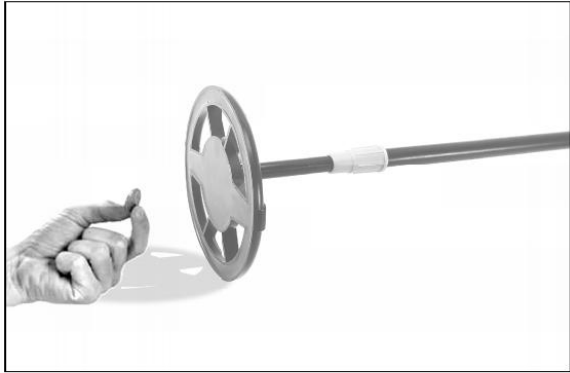
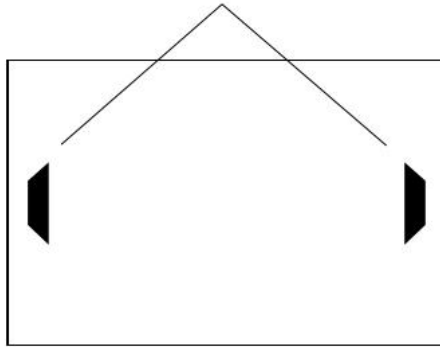
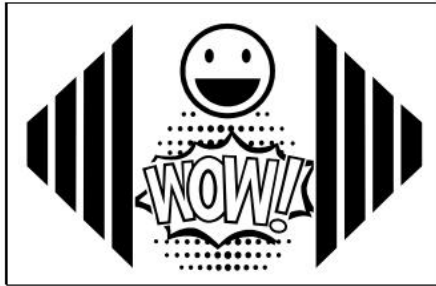

Figure 6
Figure 7. Stand-by Display
Figure 8
Place the metal detector on a wooden or plastic table with the search coil roughly perpendicular to the table surface (see Figure 6). Make sure the table is far away from TVs, computers, or any device that can cause electromagnetic interference.
Counterclockwise turn the ALL METALS/DISC knob until it clicks. Now the detector is in the ALL METALS mode. Refer to Figure 6, respectively pass the metal samples (the iron nail and 3 coins) across the search coil at a distance of 5cm to 8cm. When any of the metal samples passes across the search coil, the detector should beep and the monitor screen should show the display shown in Figure 8. When the detector stops sounding, the monitor screen should show the stand-by display quickly (see Figure 7).
Make sure that the ALL METALS/DISC knob is in the "ALL METALS" position, then turn the knob clockwise until it clicks. Now the detector is already in the DISCRIMINATION mode. In this mode, you can use the ALL METALS/DISC knob to search for specific metals by having it ignore other kinds of metals. At the present knob position, where the knob just clicked, the detector will respond to ANY metal object and the monitor screen will show the display shown in Figure 8 when the detector beeps.
2. As a test, sweep the iron nail sample across the search coil at a distance of about 5cm to 7.5cm, the detector will not beep and the stand-by display (see Figure 7) will remain on the monitor screen, but the other metal samples (the three coins) will cause the detector to beep and the monitor screen to show the display shown in Figure 8 when they are respectively swept across the search coil.